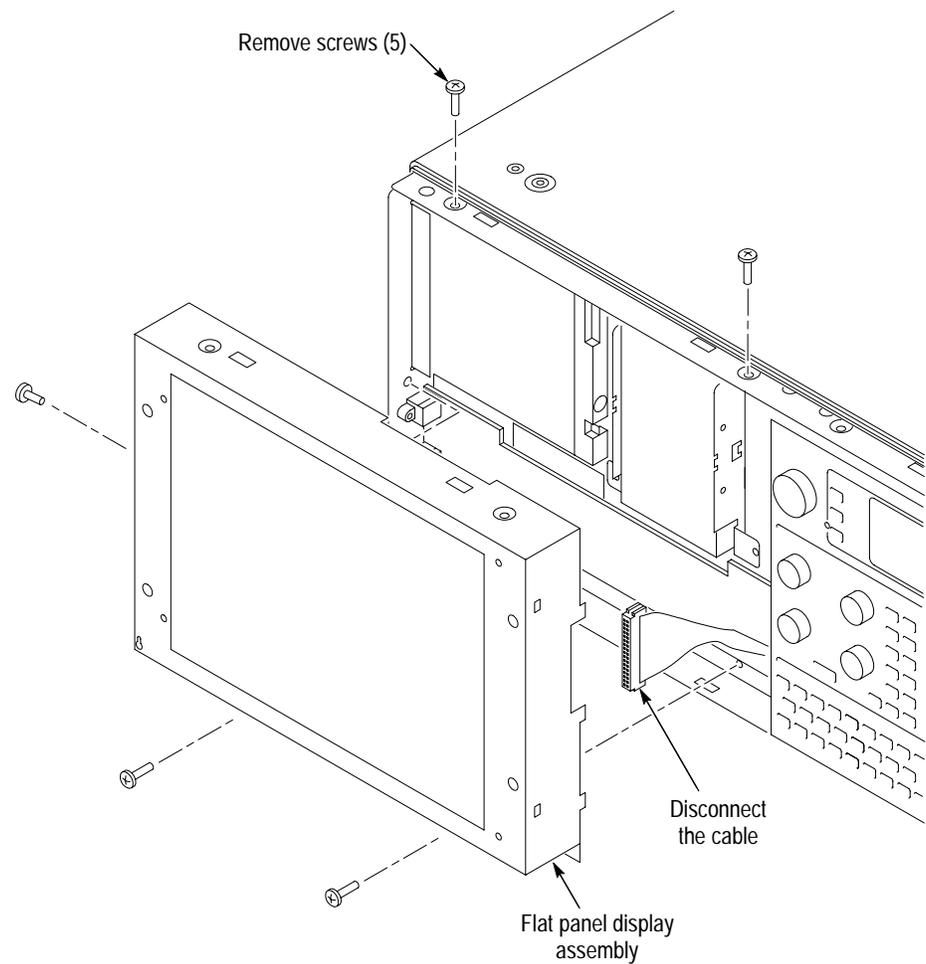

Figure 3: Flat panel display assembly removal
13. Remove the five screws that attach the flat panel display assembly to the mainframe. (See Figure 3.)
3. Install the five screws that attach the flat panel display assembly to the mainframe. (See Figure 3 on page 9.)